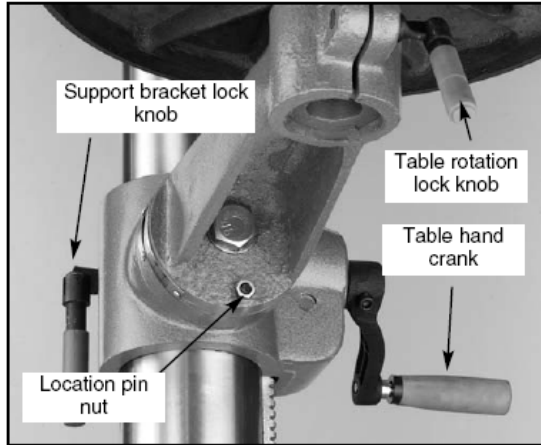

Figure 16
1. Loosen the support bracket lock knob. Turn the table hand crank to lift or lower the table as shown in **Figure 16**.
1. Turn the nut indicated by the arrow in **Figure 16**, in a clockwise direction. This will draw the location pin out of the casting. Once loose, pull the pin and nut out, and set it in a safe place until needed.